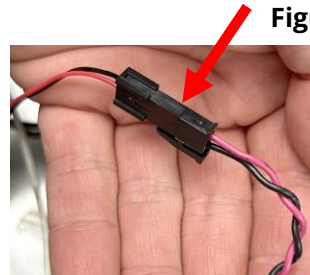

Figure 26
25. Connect the 2-wire red and black speaker wire (see Figure 26).